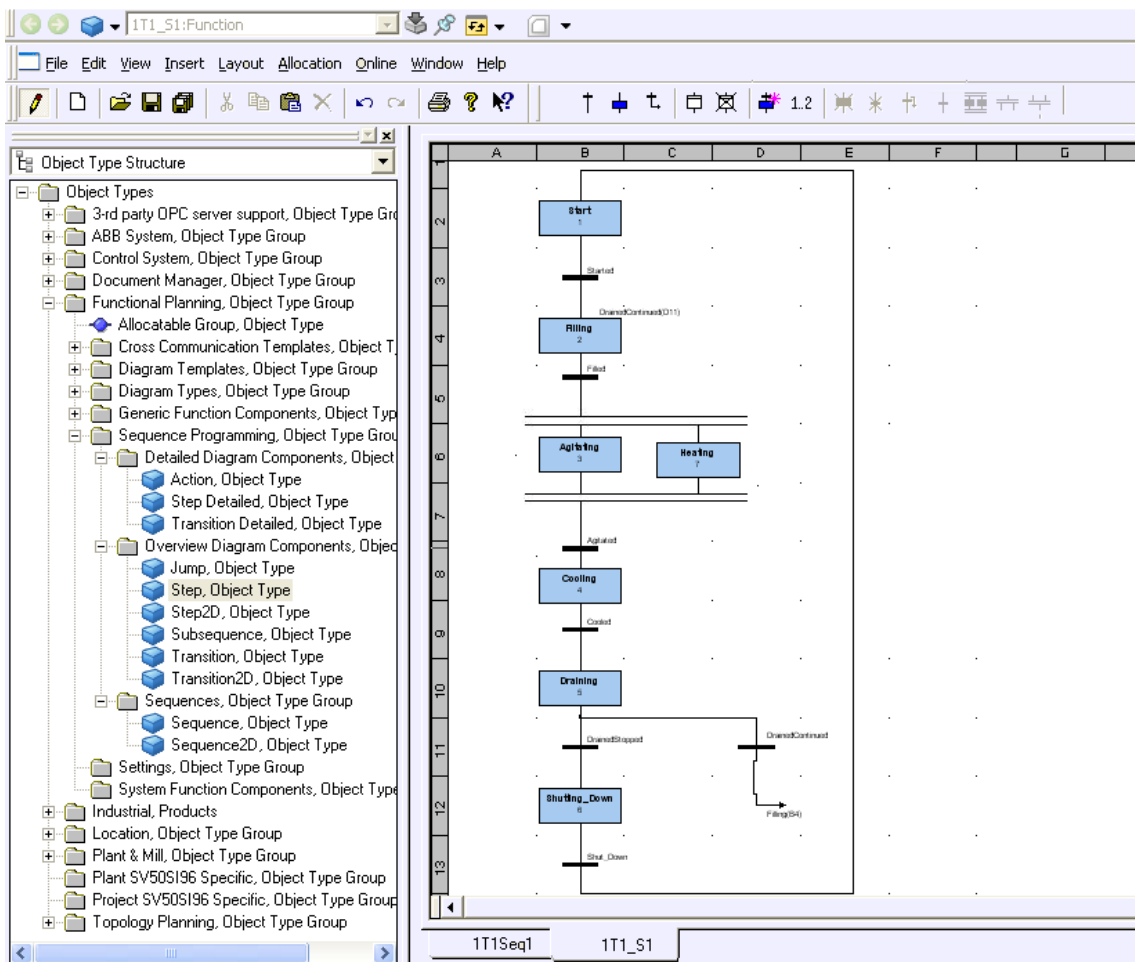

Figure 37. Sequence Overview Diagram in Function Designer
1. Open and edit the sequence 1T1_S1 in the Function Diagram 1T1Seq1 according to Editing Overview Diagram on page 57. Figure 37 shows an example design for the sequence.